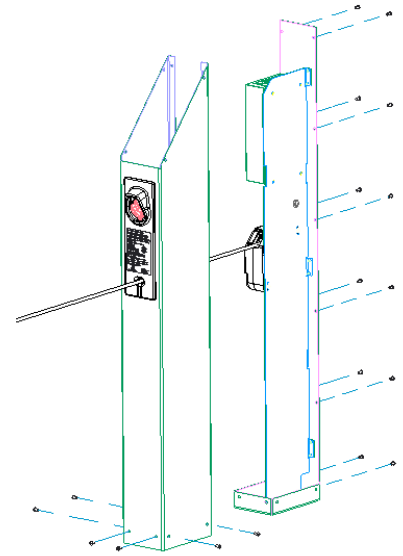

Figure 5 – Front Housing Removed
5. Remove 6 screws in the lower front and sides of the unit that attach the front housing to the charging base. Remove 4 screws on the side of the unit that attach the front housing to the charging base. Retain screws for later installation. Gently lift the front housing ~ 2" inch and slide forward and out of the way. (See Figure 5)
6. Mark hole locations (see Page 3) on concrete wall that the L2 PowerPost® EVSE will be mounted to. Drill (4) 2-7/8" deep holes in locations provided using 3/8" masonry drill bit.